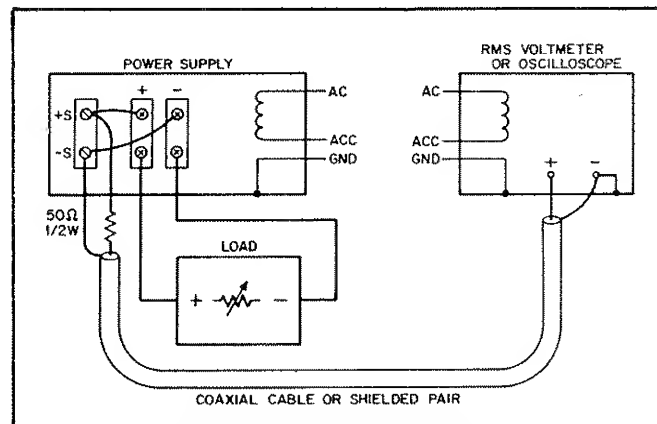

Figure 5-3. Constant-Voltage Ripple Test Setup.
5-22 Ripple Measurement Techniques. Figure 5-3 shows the method for measuring ripple using a single-ended true-reading RMS voltmeter or oscilloscope. The power supply output terminals should not be connected to ground at the power supply terminal strip to prevent current from flowing through a ground loop and adding to the measured signal. Also, to ensure that no potential difference exists between the supply and the RMS voltmeter, it is recommended that they both be plugged into the same ac power bus. If the same bus cannot be used, both ac grounds must be at earth ground potential.
- Connect test setup shown in Figure 5-3.
5-26 A single-ended measurement (replacing RMS voltmeter in Figure 5-3 with an oscilloscope) is usually not adequate for measuring spikes; a differential oscilloscope is necessary. Because of its common-mode rejection, a differential oscilloscope displays only the difference between its two vertical input terminals, thus ignoring the effects of any common-mode signal produced by the difference in the ac potential between the power supply case and the oscilloscope case. Before using a differential-input oscilloscope, however, it is imperative that the common-mode-rejection capability of the oscilloscope be verified. Turn both the VOLTAGE and CURRENT controls fully counterclockwise, short together the two input leads at the power supply, and observe the trace on the CRT. If the trace is a straight line, then the oscilloscope is properly ignoring any common-mode noise present. If the trace is not a straight line, then the oscilloscope is not rejecting the ground signal and must be realigned in accordance with the manufacturer's instructions so that proper common-mode rejection is attained.